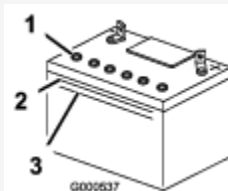

Figure 51
3. Look at the side of the battery. The electrolyte must be up to the upper line (Figure 51). Do not allow the electrolyte to fall below the lower line (Figure 51).
5. Remove the vent caps from the battery (Figure 51).
6. Slowly pour distilled water into each battery cell until the electrolyte level is up to the Upper line (Figure 51) on the battery case.
7. Wait 5 to 10 minutes after filling the battery cells. Add distilled water, if necessary, until the electrolyte level is up to the Upper line (Figure 51) on the battery case.